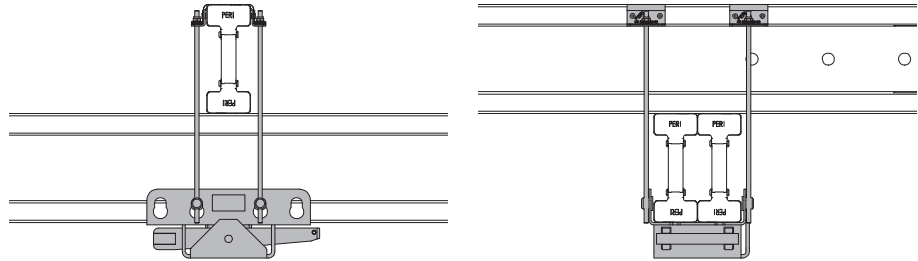

Fig. B2.01
(Fig. B2.01)
1. On a sufficiently large and flat assembly area, mount stopping boards for the Girders VT 20K (5a) and the spacing battens for the Girders VT 20K (5b) according to the assembly plans. (Fig. B2.01)